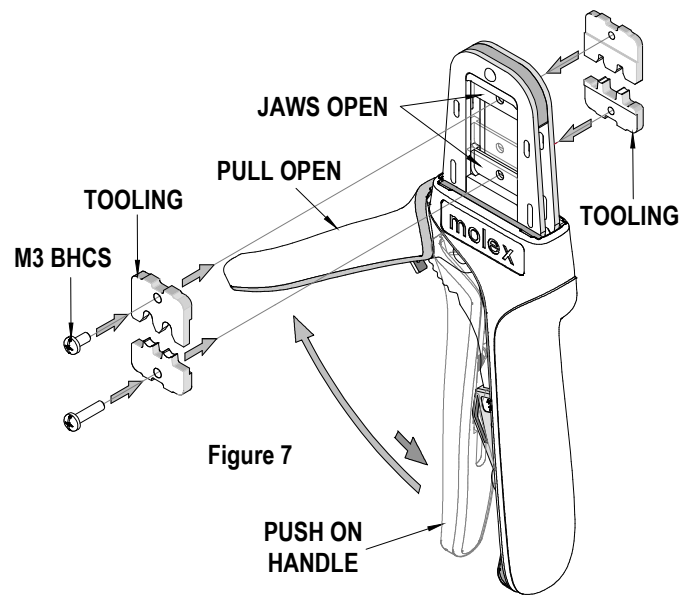

Figure 7
3. Flip the upper tooling to the opposite side, and replace the M3 BHCS. Make sure the small markings on the front and back of the hand tool frame match up and are on the outside of the hand tool frame. See Figures 7 and 8.